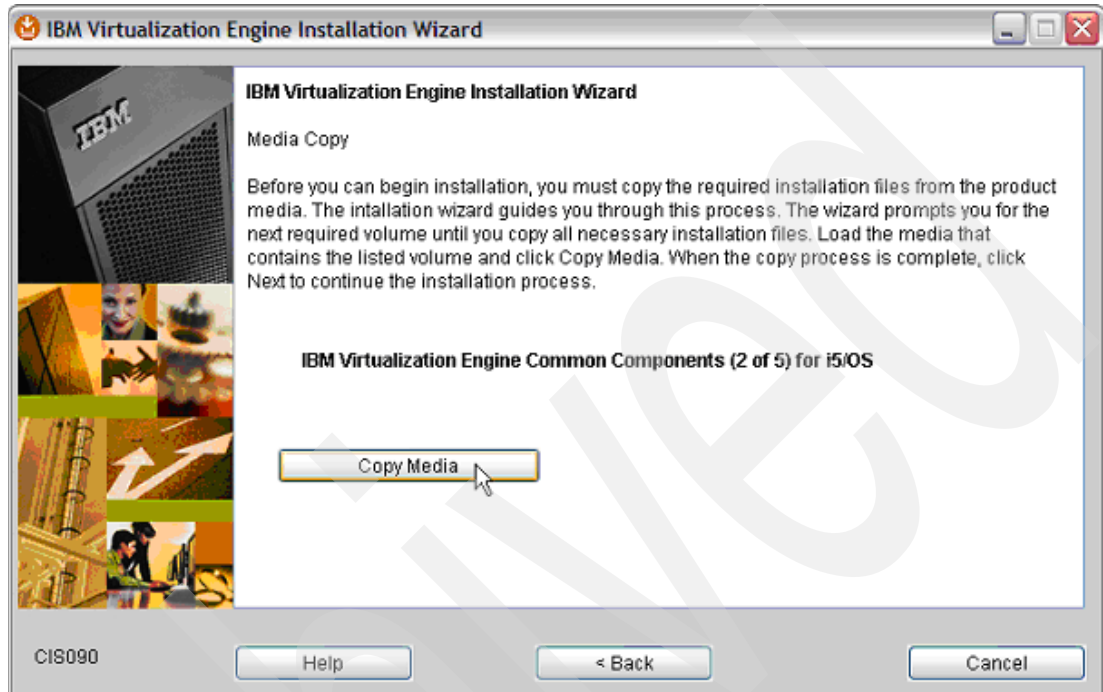

Figure 5-15 Media Copy window
10. On the Media Copy window (Figure 5-15 on page 121), insert the second CD-ROM listed on the window and follow the instructions and click **Copy Media**. The installation files will be copied for IBM Virtualization Engine Common Components to the temporary directory.